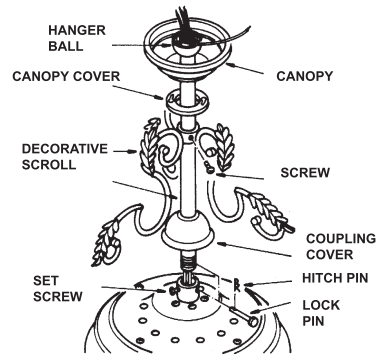

Fig.11
Step 7. Carefully feed fan wires up through the downrod. (Fig. 11) Thread Downrod into the Coupling until the holes are lined up and secure with the Lock Pin and Hitch Pin previously removed, tighten Set Screws. (Fig. 11)
Step 8. Slip Coupling Cover, Decorative scroll, Canopy Cover and Canopy onto Downrod. Carefully re-install the Hanger Ball onto the Downrod being sure that it's properly positioned over the Cross Pin and the wires are not twisted, tighten Set Screw. (Fig. 11)